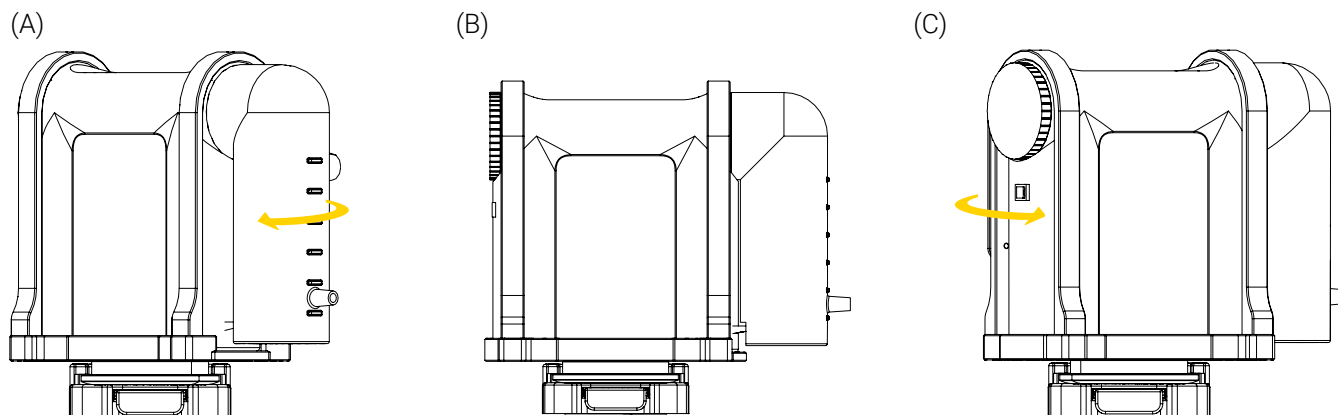

Figure 10: Operating the Bracket Pro Serie 77 FL with a bottom micro disc
3. For support brackets with a bottom micro discs, turn the support bracket clockwise or counterclockwise (Figure 10), to the desired position when needed.